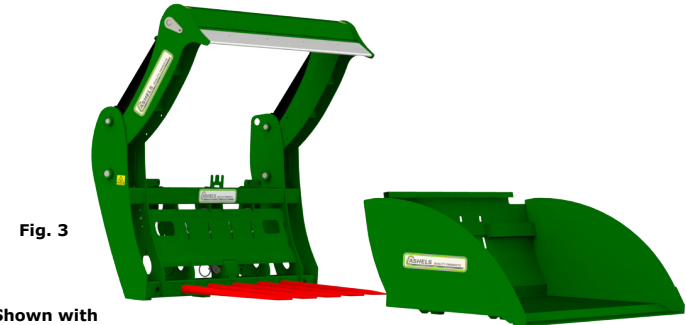

Fig. 3
- There are two cut-out windows on the main frame to enable the user to view the bale film when positioning the **Bale Cutter** over the bale as seen in *Fig. 3*.